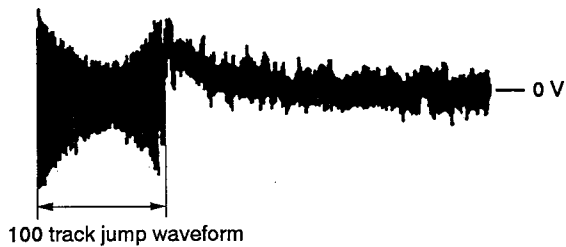

Fig. 3
7. Press ►►► or ◄◄◄ key and observe the 100 track jump waveform. Check that no traverse waveform appears for both ►►► (►►►) or ◄◄◄ directions. (See Figures 3 and 4.) It is acceptable if the traverse waveform appears only now and then, but if it appears constantly, raise tracking gain slightly and check step 7 again.